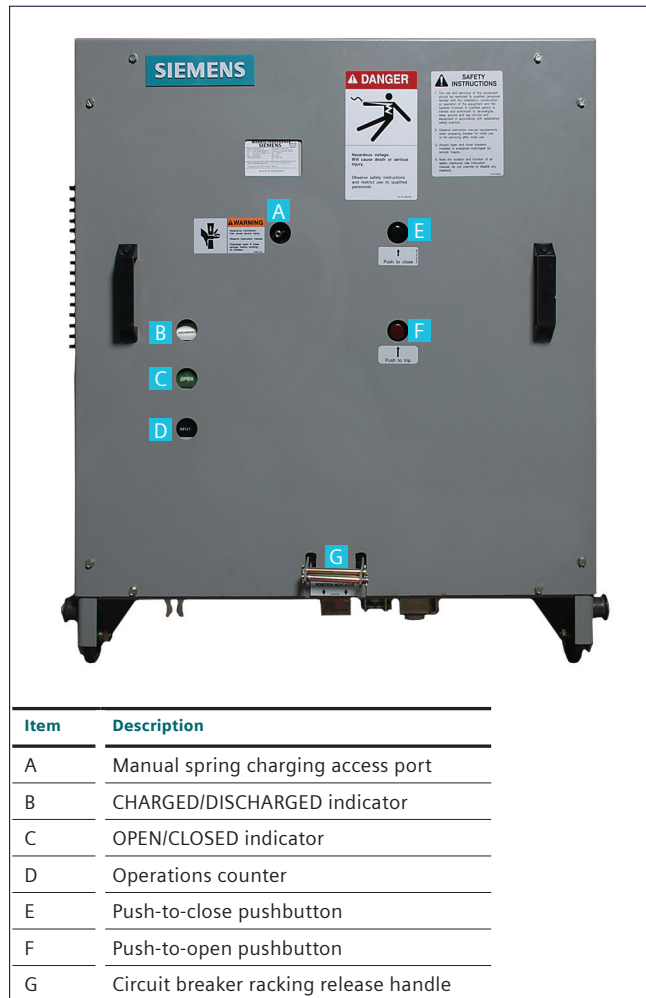

Figure 42: Front panel of type GMSG circuit breaker
Perform the spring discharge check before inserting or removing the circuit breaker from the switchgear (refer to Figure 42: Front panel of type GMSG circuit breaker).
5. The circuit breaker is now free to be rolled out on the floor using the handles on the front panel as shown in Figure 42: Front panel of type GMSG circuit breaker on page 75.
5. Depress and hold down the circuit breaker racking latch release handle (refer to Figure 42: Front panel of type GMSG circuit breaker on page 75) and pull the circuit breaker out from the DISCONNECT position. The circuit breaker may now be removed from the cubicle and rolled out onto the two extension rails.